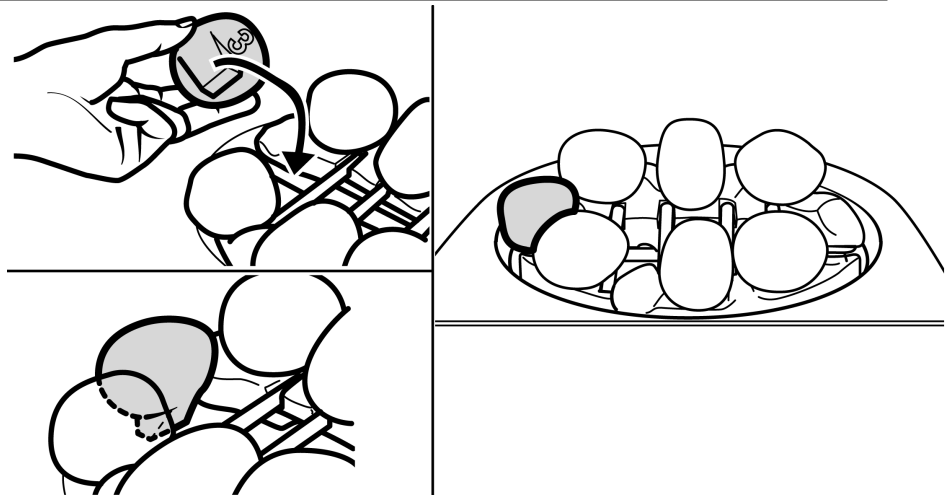

Figure 32 Pebble number '3' Location
6. Pebble '3' has a location peg on the underside. The peg has a chamfer on one side. The chamfer must face the burner. Locate pebble '3' onto the left hand side of the pebble base. It should bridge the gap between the front and rear halves of the pebble base. Pebble '3' should not touch the burner cover (Figure 32).